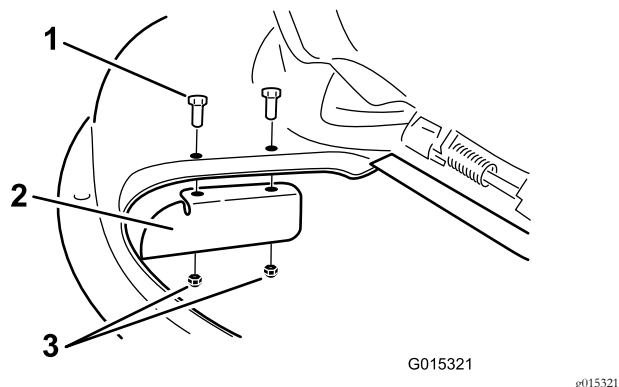

Figure 18
9. Install the cutoff baffle to the mower deck (Figure 18).
3. Remove the cutoff baffle from the mower deck (Figure 18).